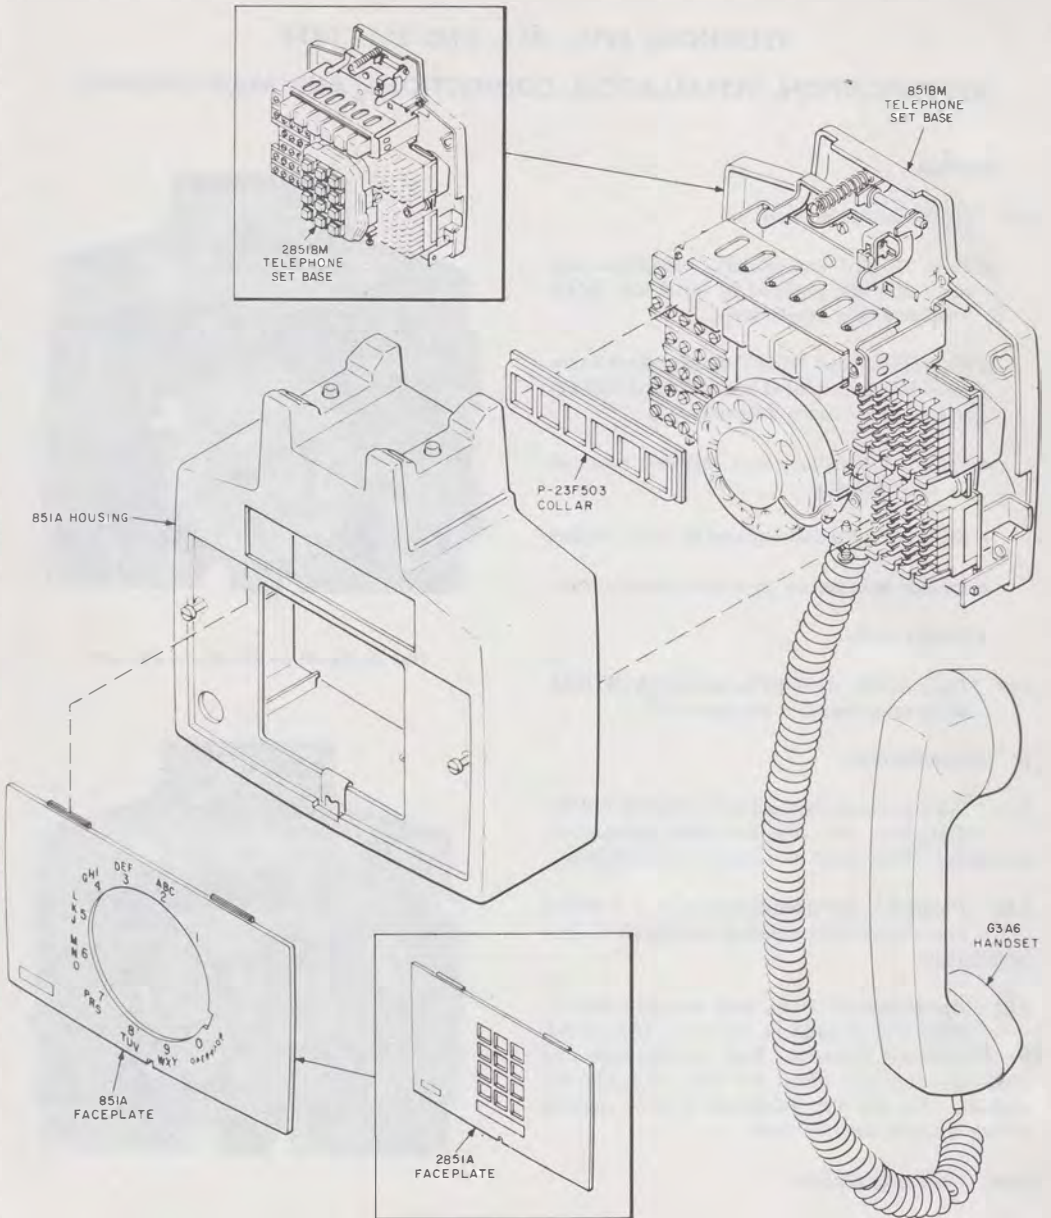

Fig. 3 Station Modular Arrangement, 851B and 2851B Telephone Set Showing Current 851A Housing and Baseplate
*Note:* The 851- and 2851-type telephone sets can be ordered completely assembled (851B-\* or 2851B-\*, Fig. 6 and 7) or modular (851BM or 2851BM, Fig. 3 or 4) telephone set bases.